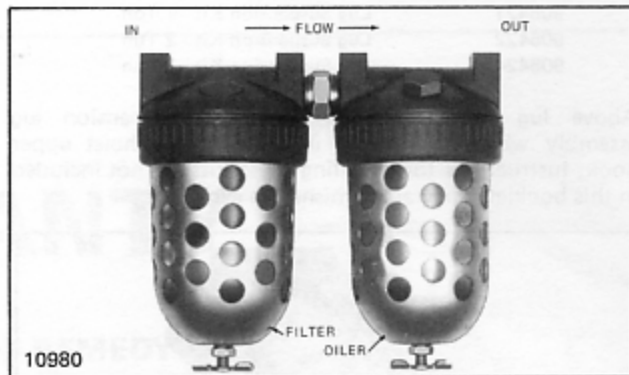

Figure 3. Air Filter and Lubricator Unit.
2. A filter lubricator unit (Figure 3) must be installed between air source and air hose leading to trolley. These keep air flowing to trolley free of dirt and add lubricant to air so internal parts of motor are constantly lubricated. Use a good grade of spindle oil, approximate viscosity 180 ssu at 100°F., air powered tool oil, or S.A.E. 10W machine oil. BUDGIT distributors can provide filter-lubricator units.